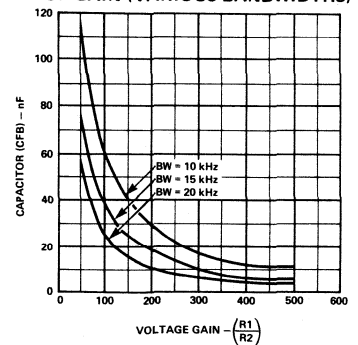
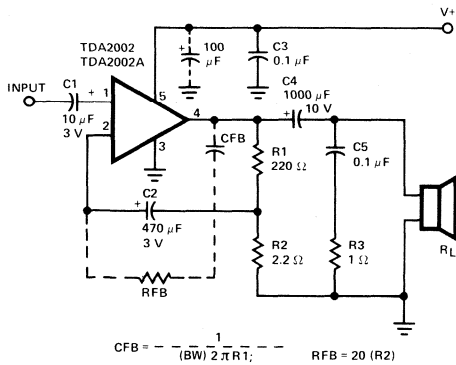

Fig. 15
Fig. 19
Figures 19 and 20 show a typical circuit with CFB, RFB shown dashed. CFB and RFB may be used to adjust the bandwidth after the gain has been set by the ratio R1/R2. (See Figure 15).
P.C. BOARD AND COMPONENT LAYOUT FOR THE CIRCUIT OF FIG. 19 (1:1 SCALE)